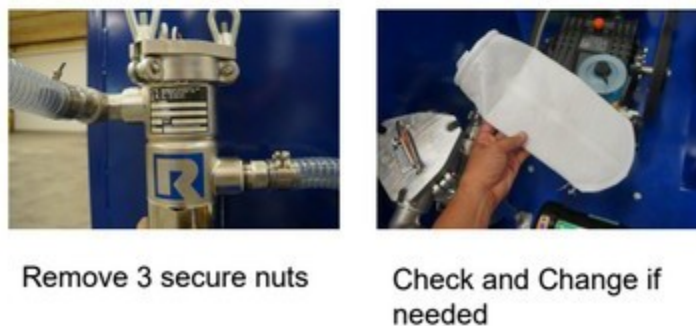

Figure 6.1 – Inspection / Cleaning Water Filter/Strainer
3. Inspect the inline strainer to ensure that it is not clogged (See **Figure 6.1**). Clean if necessary.
2. Unscrew the strainer bowl from the housing (turn counterclockwise) (See **Figure 6.1**).